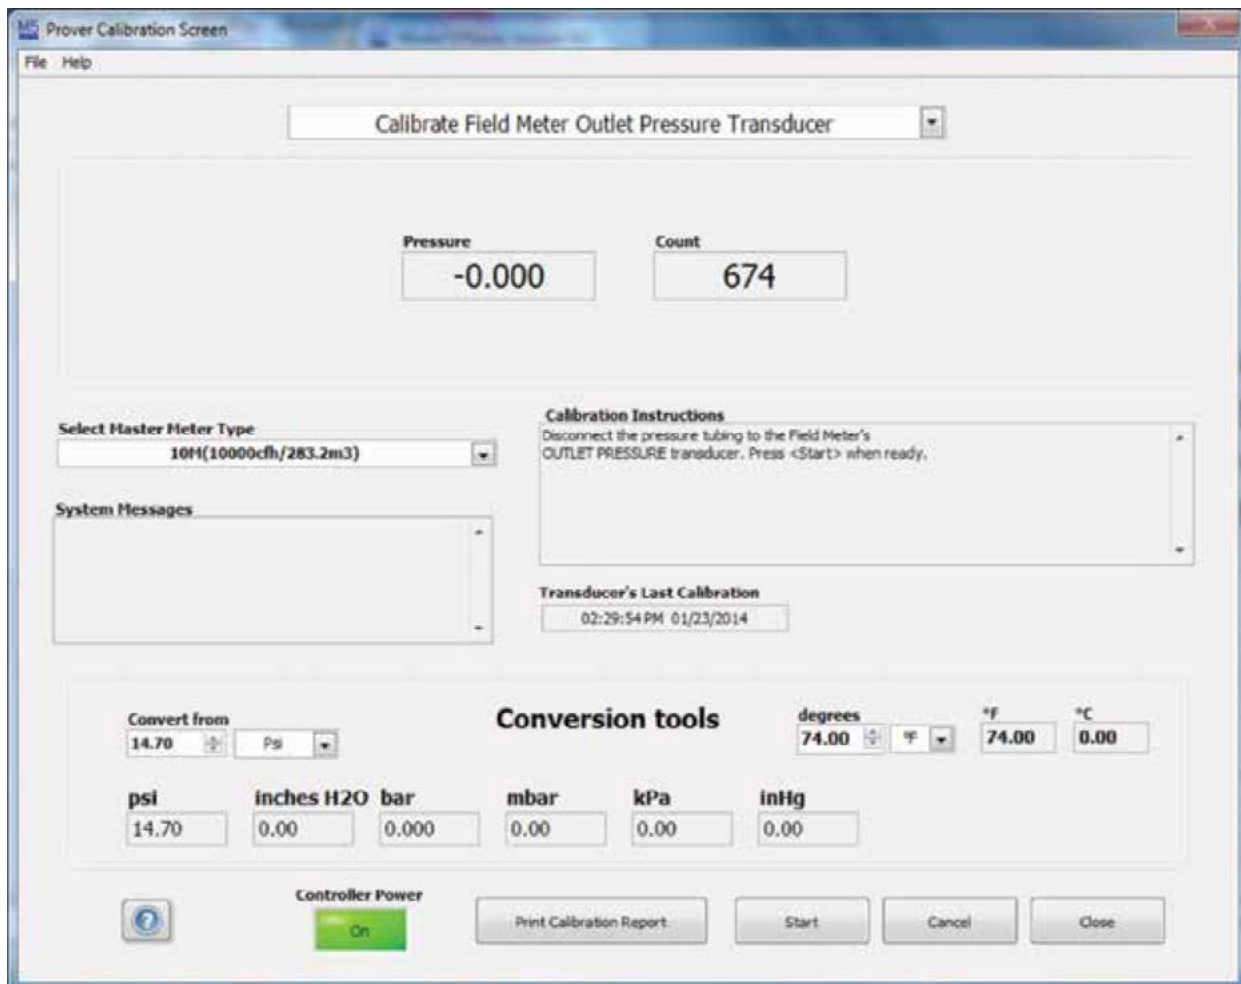

Figure 34: Select Calibrate Field Meter Outlet Pressure Transducer
- From the Prover Calibration Screen, select the pull down arrow and click "Calibrate Master Meter Outlet Pressure Sensor." Refer to Figure 34.